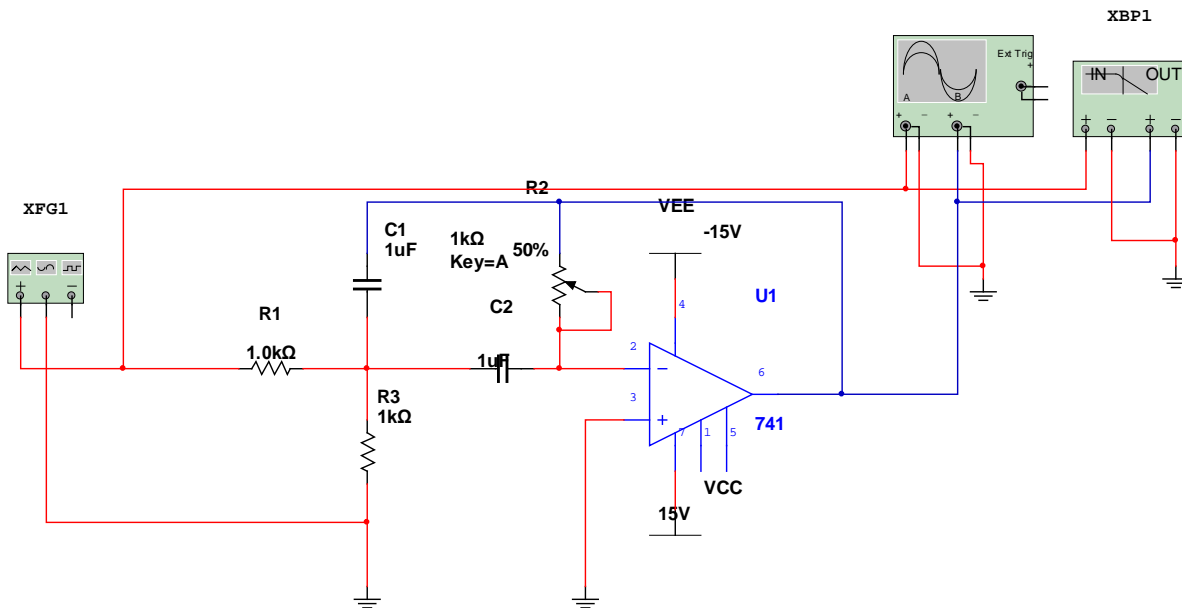

Figure E2-7. Completed Schematic Ready for Simulation
- Your circuit is now ready for simulation. It should resemble Figure E2-7.